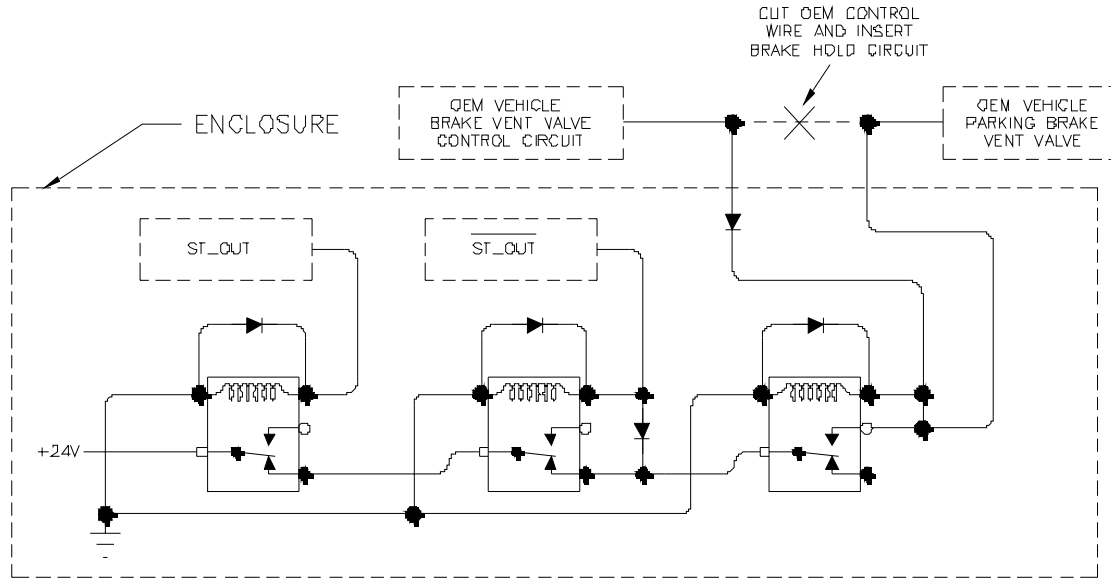

FIGURE 2-3: BRAKE HOLD CIRCUIT DIAGRAM
- 1) Refer to **Figure 2-3**. Obtain a suitable enclosure and locate brake hold circuit inside.